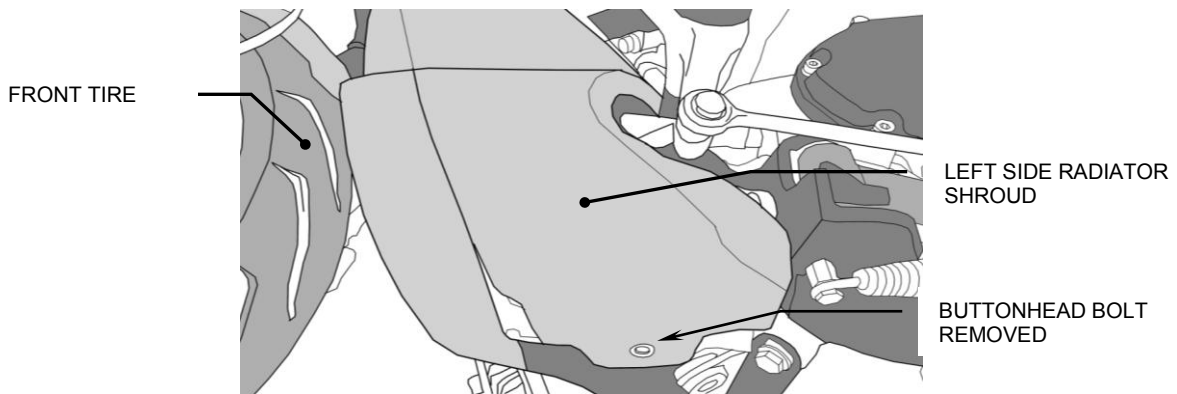
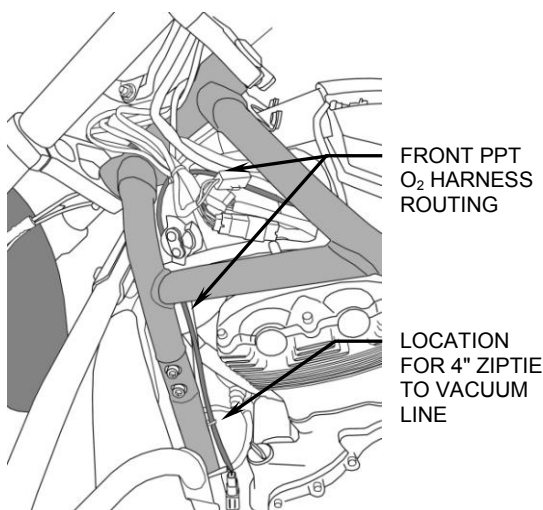
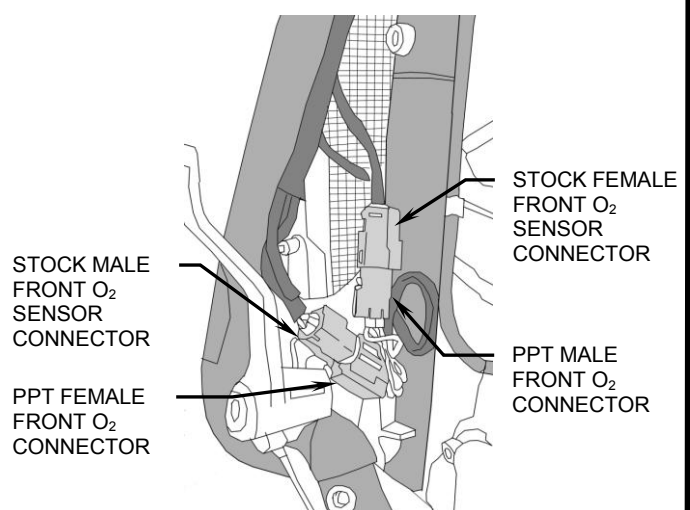

FIGURE 4
FIGURE 5
FIGURE 6
5. Route the long front oxygen sensor harness along the upper left frame rail next to existing harnesses and continue forward under connectors which were exposed under the cover removed in Step 3. Remove the buttonhead socket screw from the bottom of the left radiator shroud to allow shroud to be pulled outward, Figure 4, to expose the light gray front O2 sensor connectors. Continue routing harness down next to vacuum line and then outward towards left radiator shroud, see Figure 5. Disengage connectors and mate corresponding male and female connectors from motorcycle to PPT, see Figure 6. Tuck the connectors back between the frame rail and shroud neatly.
6. Install (3) 6" zip ties to secure front O2 sensor harness to existing wire loom along left upper frame rail. Use (1) 4" zip tie to secure harness to vacuum line. Reinstall buttonhead socket screw at bottom of left radiator shroud. Use blue medium strength thread locker to ensure screw stays tight.